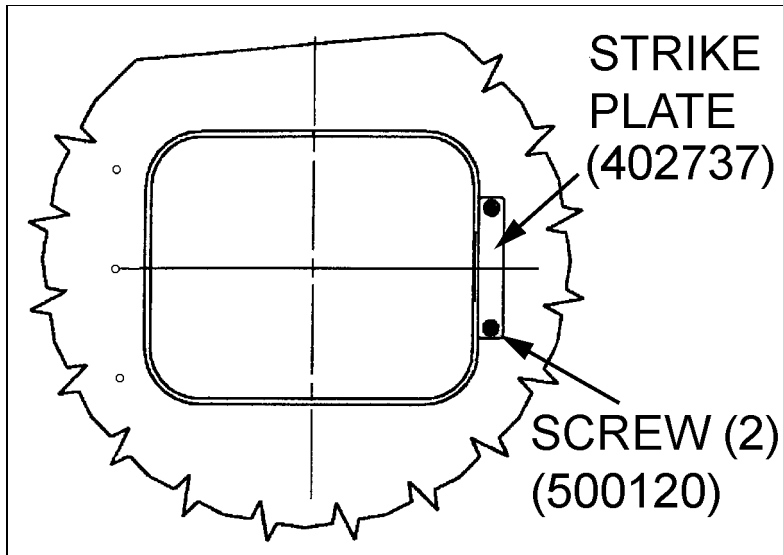

FIGURE 4
4. Install the strike plate (402737) over the cut out then secure using two screws (500120) as per figure 4.